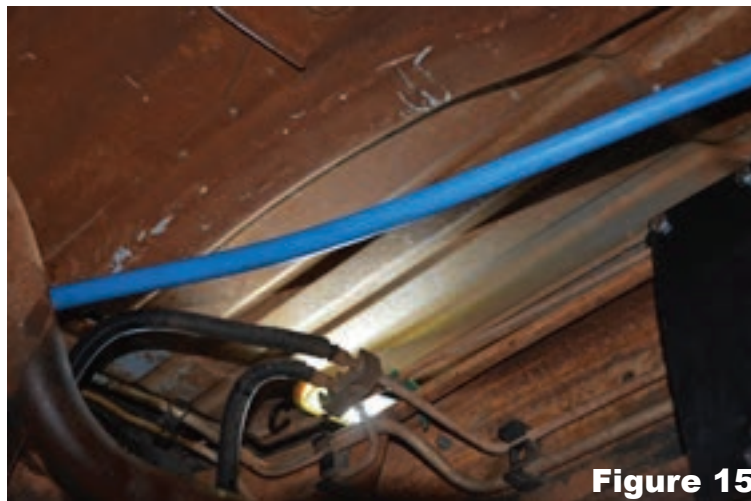

Figure 15
- 4-3. Run the fuel line along the frame away from any hot or moving parts such as exhaust or the driveshaft (Figure 15). Cut the hose to length and insert the other fuel line end that the manual calls out into the fuel line as outlined in step 4-1.